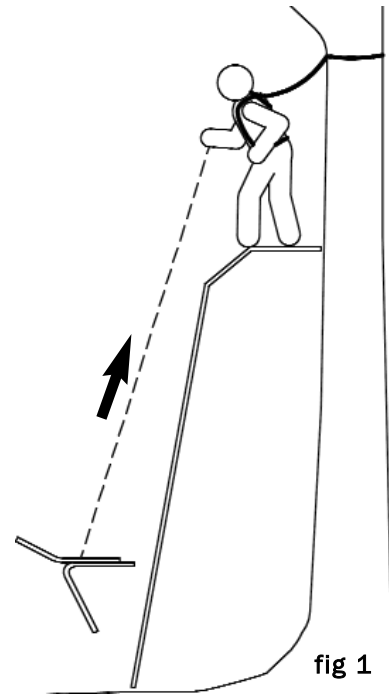

fig 1
3. Raise **SEAT FRAME** to **PLATFORM** using **HOIST ROPE**. (fig 1)